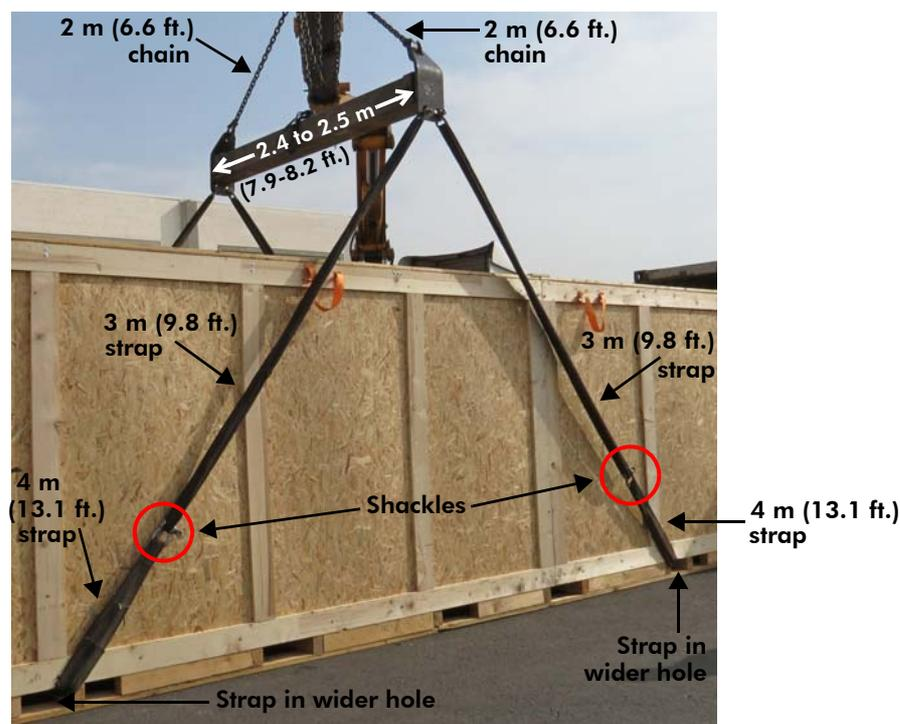

Figure 5-4 Using 6 Straps to Lift Main Machine Crate
- 1 Lift the main machine frame crate from the flatbed truck using a crane with a steel beam, straps, and chains, as shown in Figure 5-4 on page 63. The specifications for the beam, straps, and chains are described in Table 5-1 on page 61.